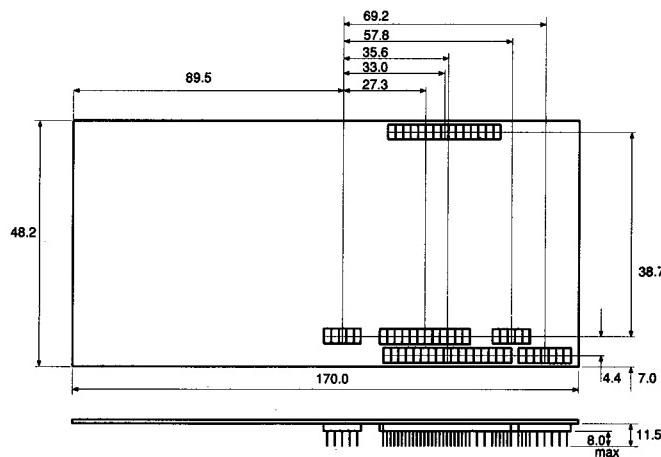

Figure 2: Networking card dimensions and socket locations
- Figure 2 gives the maximum dimensions of a networking card and the locations of the connectors.